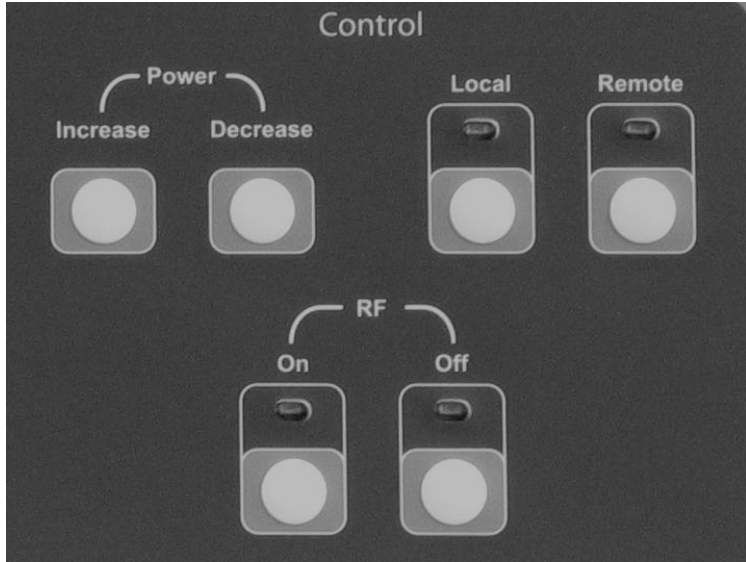

Figure 3-3 Vector-LP Transmitter Front Panel – Control Section
- **Control** - push-button switches that allow convenient control of the transmitter's RF status (on or off and increase or decrease) and its operator control source (local or remote). The **RF Off** switch is functional regardless of local or remote selection. Refer to Figure 3-3 and Table 3-2 for a description of the controls and indicators.